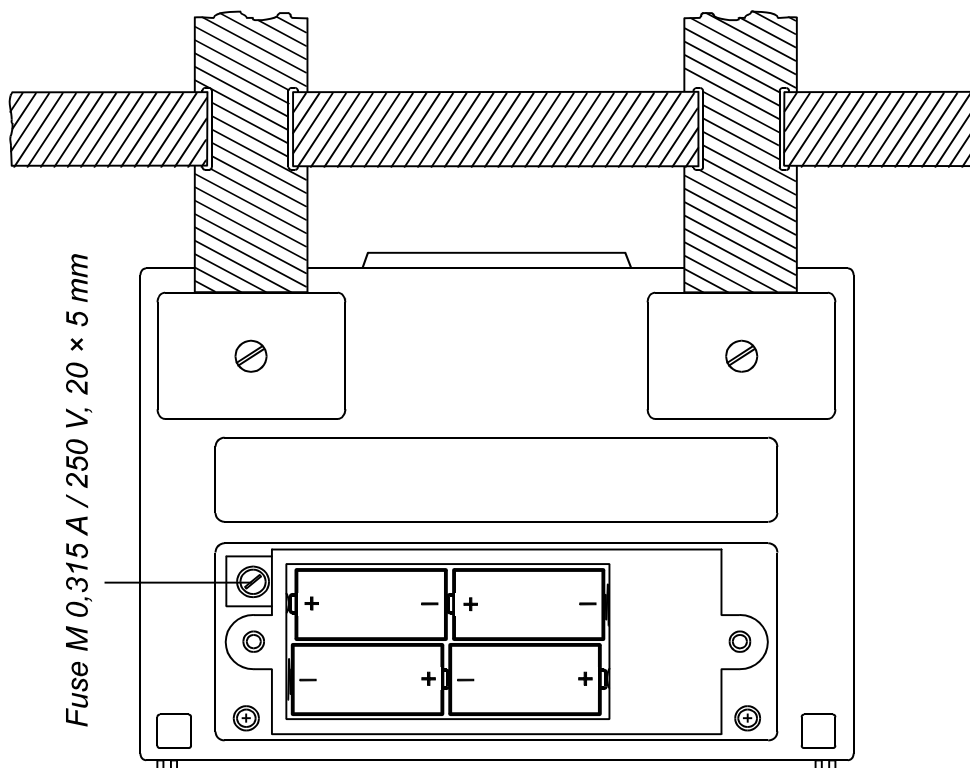

Fig. 35. Correct polarity of inserted batteries
- Insert batteries correctly, otherwise test instrument will not operate and batteries may be discharged, see the figure 35. for correct battery polarity.
There is one fuse under battery compartment cover (see the figure 35.). It is intended to protect internal circuitry of the test instrument, if test tips are connected to mains voltage by mistake, when function switch in **R ±200mA** or **CONTINUITY** position.